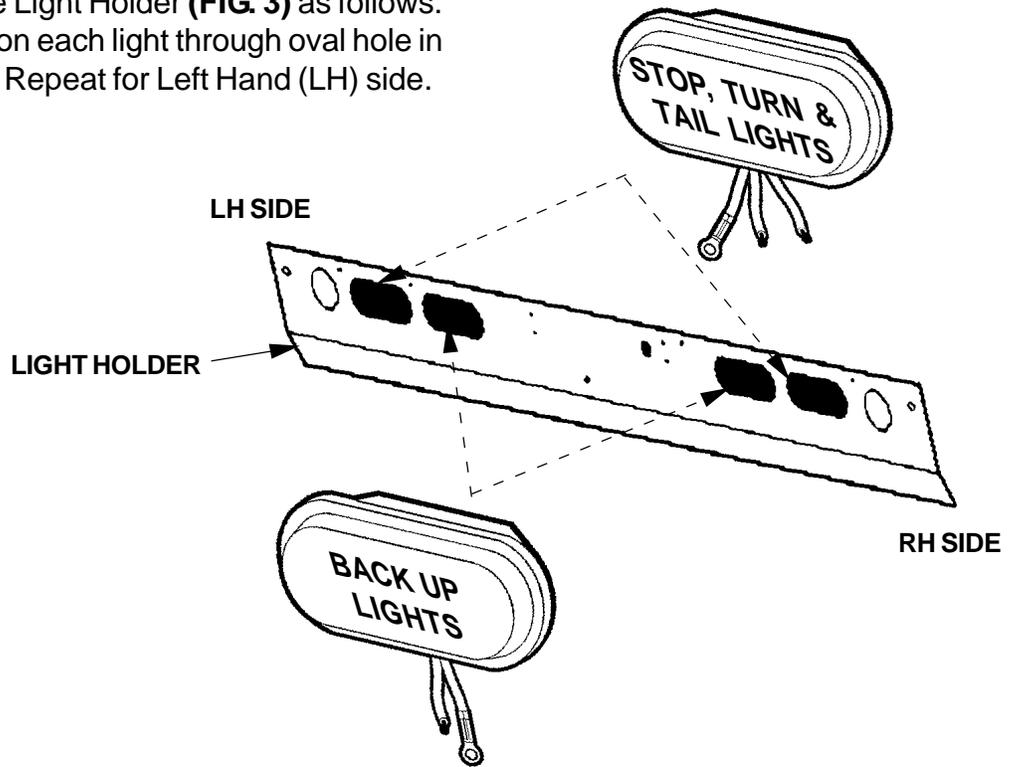

FIG. 3
3. Install a Back Up Light and Stop, Turn & Tail Light on Right Hand (RH) side of the Light Holder (**FIG. 3**) as follows. Feed wiring harness on each light through oval hole in Light Holder (**FIG. 3**). Repeat for Left Hand (LH) side.